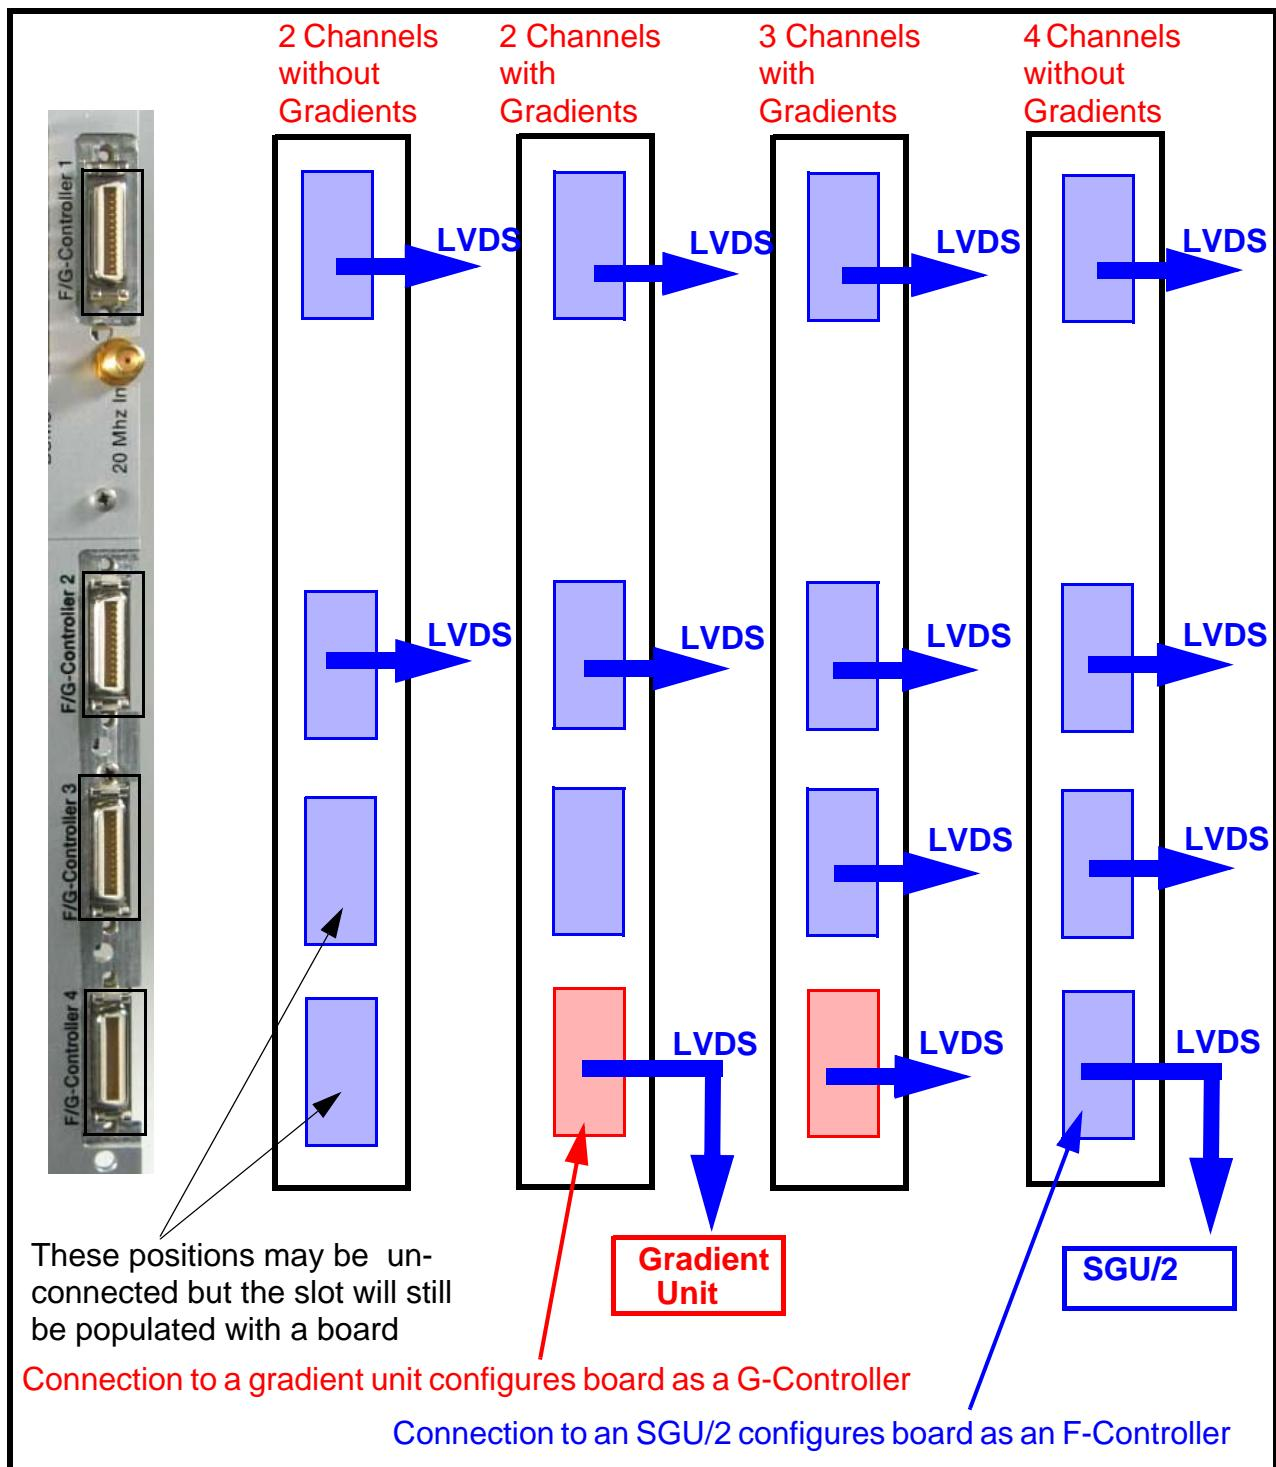
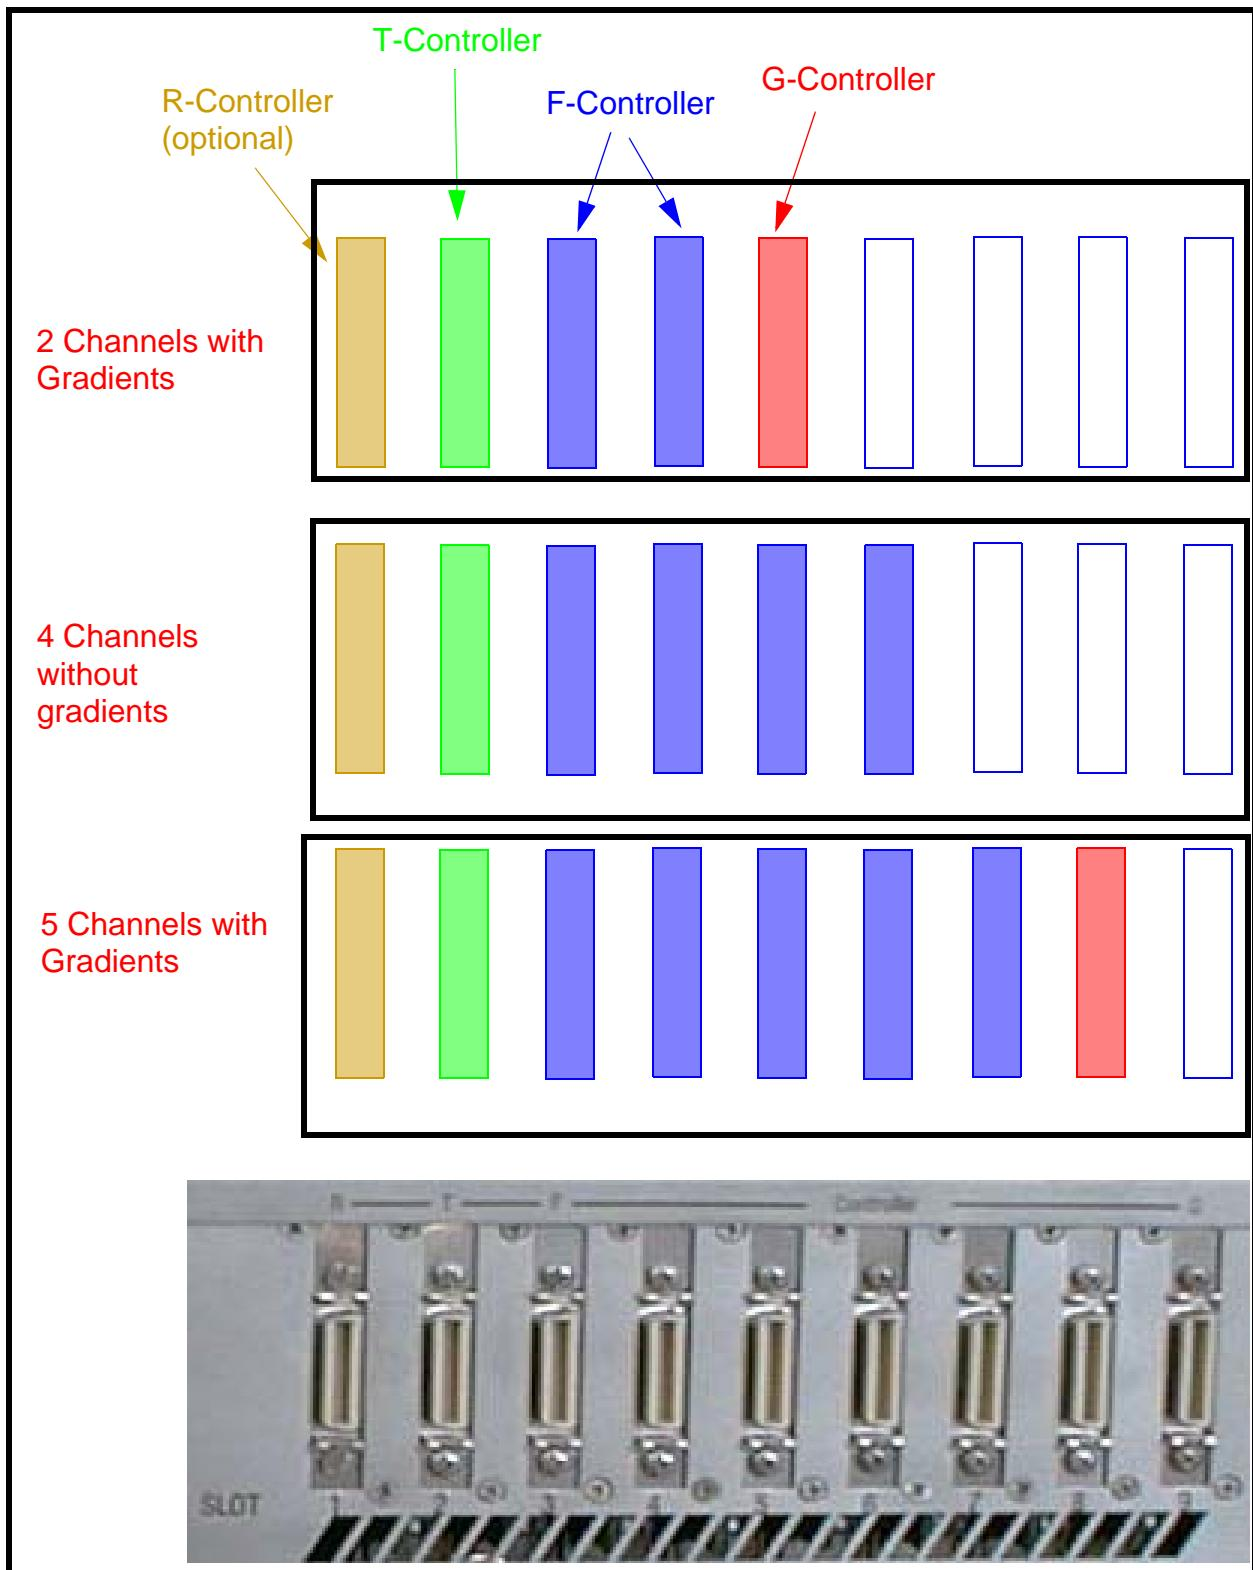

Figure 4.8. Four Sample Configurations of the AQS IPSO
Figure 4.9. Three Sample Configurations of the 19" IPSO
- The board position (see **Figure 4.9.**) is fixed regardless of the individual spectrometer configuration, number of channels etc. Indeed it is the board position that designates a Tx-Controller as a T-Controller.
Some sample configurations are shown in Figure 4.8, and Figure 4.9. Note that every AQS IPSO will be fitted with 4 Tx-Controllers as standard. The type and
number of channels will depend on whether each board is connected and whether it is connected to an SGU/2 (F-Controller) or gradient unit (G-Controller) see Figure 4.8.